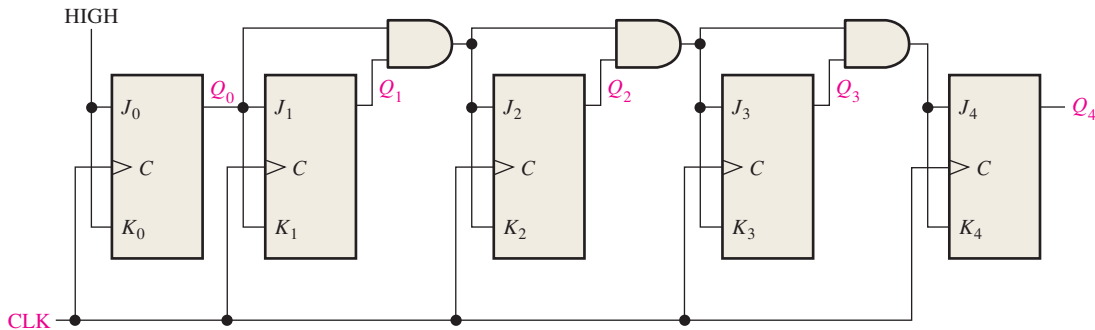

FIGURE 9-67
8. Show the complete timing diagram for the 5-stage synchronous binary counter in Figure 9-67. Verify that the waveforms of the Q outputs represent the proper binary number after each clock pulse.